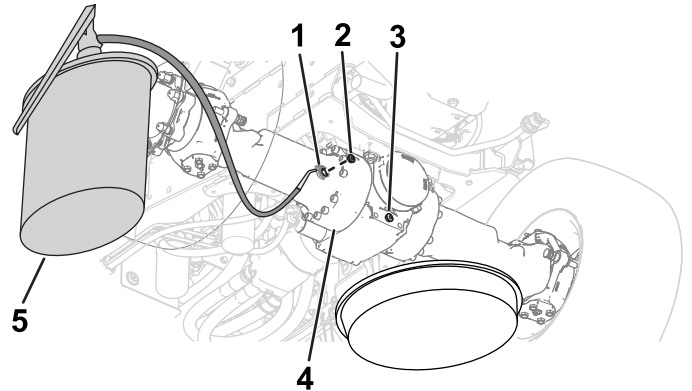
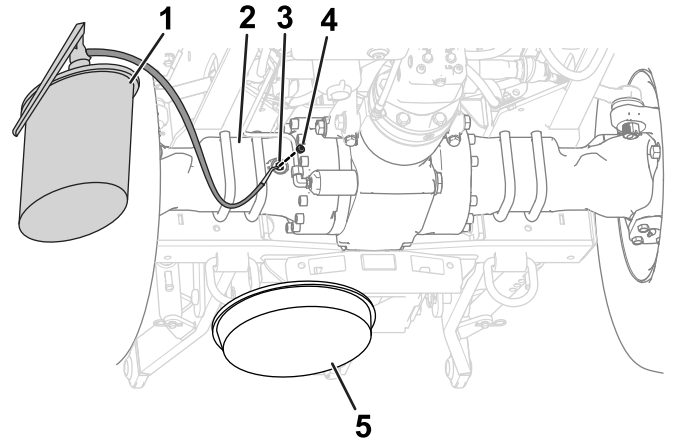

Figure 101
Figure 102
5. Install the drain plugs into the drain ports at the differential housings (Figure 101 and Figure 102).
6. Fill the axles with the specified oil through the sight port until the oil is level with the threads at the bottom of the port (Figure 101 and Figure 102).
8. Install the fill plugs into the sight ports of the differential housings for the axles (Figure 101 and Figure 102).